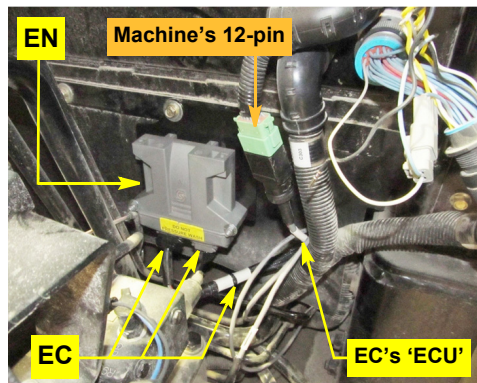

Figure 3c: Steering controller main cable connected and its connection to ECU
- e. Behind the cab, connect steering controller cable **EC**'s two 12-pin connectors (black and gray) to their respective sockets on steering controller **EN** (Figure 3c).
Locate the machine's 12-pin connector (the external continuation of the 12-pin cabling in step 3a). Connect it to **EC**'s branch cable labeled 'ECU' (Figure 3c).